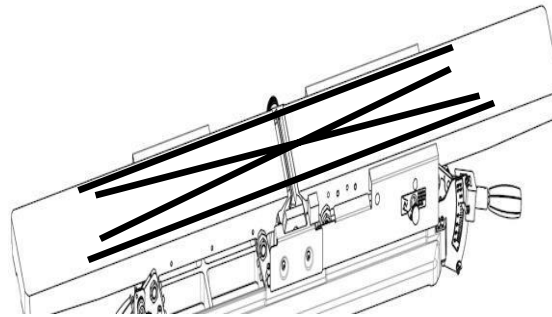

Figure 40: Verification of parallelism/coplanar
**STEP 6:** Remove infeed table depth stop release knob and infeed table cover, loosen set screws and place straight edge across infeed and outfeed tables as in **FIG. 40**, and adjust eccentric bushings under infeed table as STEP 4 for outfeed table.
**STEP 6:** Remove infeed table "depth stop release knob" and infeed table cover, loosen set screws and place straight edge across infeed tables as in Fig. 40, and adjust eccentric bushings under infeed table (as in Step 4) for outfeed table.
**STEP 7:** Verify parallelism in each position as in Fig. 40 confirm eccentric bushings are snug and tighten set screws in eccentric bushings on infeed table.